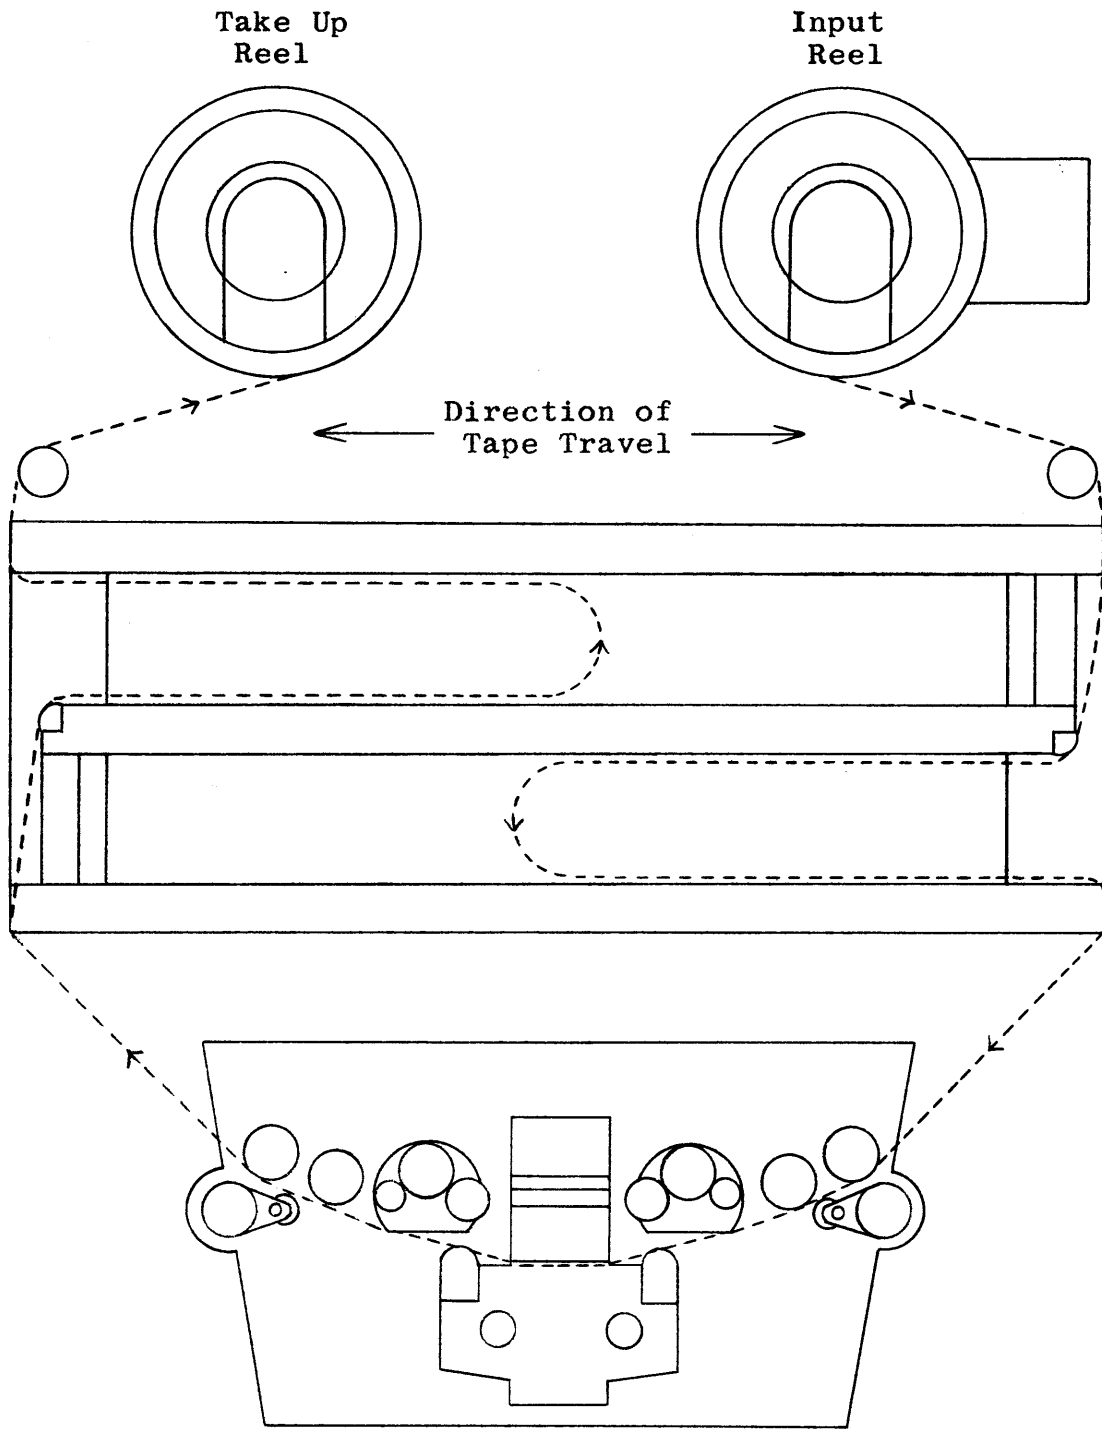

Figure 2-10. Magnetic-Tape Threading.
10. Wind up slack by turning left hand reel counterclockwise until the end of the conductive strip is past the end-of-tape post. Unwind slightly and thread. See Figure 2-10.